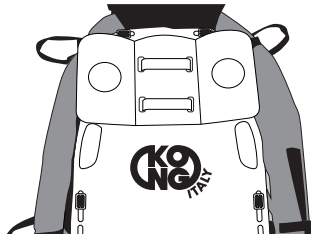

Fig.35
- place the spinal board in the sheet as defined in the paragraph 4.6.1 points a) and b) by inserting in the spinal board only the 4 buckles, placed in the upper "head-torso" section of the rescue bag (fig. 35),